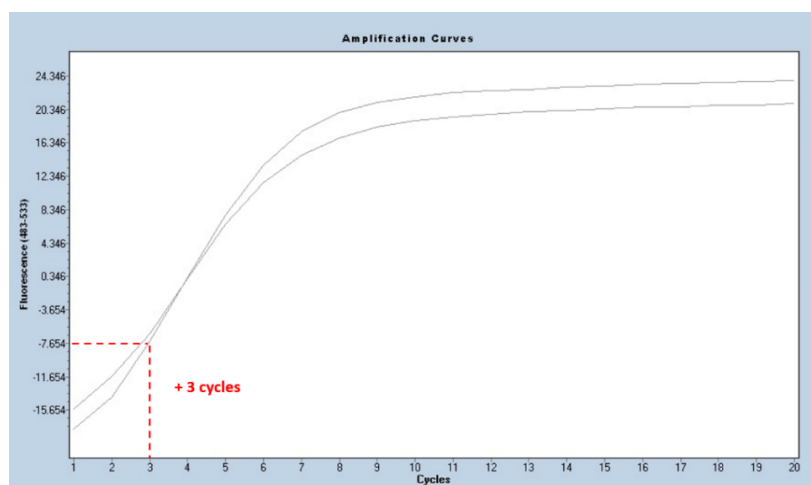

Figure 1. qPCR amplification plot showing $\frac{1}{4}$ of max fluorescence = 3 PCR cycles
25. Determine the required number of additional cycles to amplify. The number of cycles should equal $\frac{1}{4}$ of max fluorescence (Figure 1). This is to avoid PCR bias.